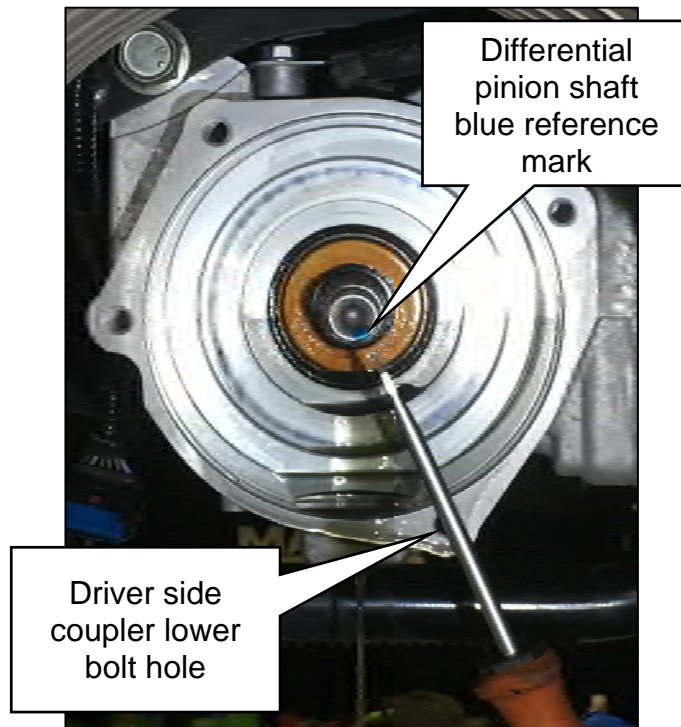

Figure 17
24. With the AWD coupler removed, locate the blue reference mark on the differential pinion shaft. If necessary, rotate one of the rear wheels until the blue reference mark is aligned with the driver side coupler lower bolt hole, as shown in Figure 17.